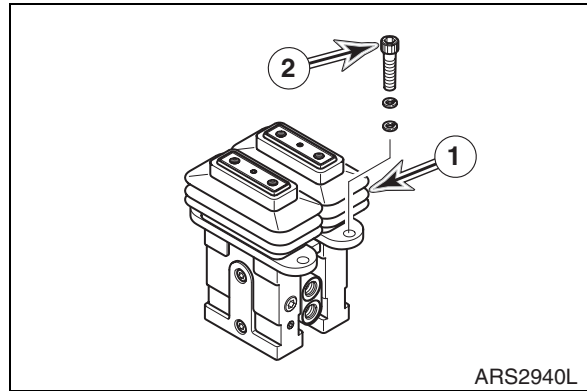

Figure 10
15. Remove four bolts and washers (2, Figure 10), and pedal valve (1).